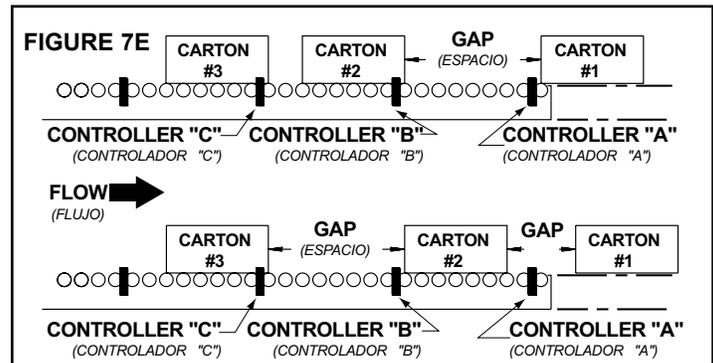

FIGURE 7E
1. Releasing load #1 is accomplished by "de-activating" the zone stop signal to the discharge zone (Refer to the "Zone Stop Connections" section on page 23). This restores power to the tread rollers in zone #1. Load #1 will then move forward, causing a gap between itself and load #2 (Figure 7E).